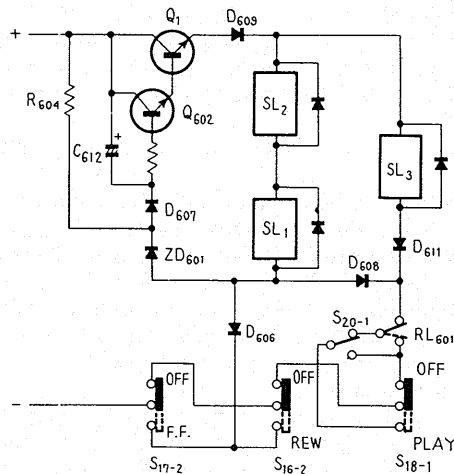

Fig. 5
• Control Circuit for Solenoid Supply Voltage (Fig. 5)
In Fig. 5, Q_1 , Q_{602} , and ZD_{601} form a voltage stabilization circuit supplying the retaining current for continuous operation of the brake solenoids (SL_1 , SL_2) and the pinch roller solenoid (SL_3).
When the F.F. or REW button (S_{17} or S_{16}) is pressed, the relay contacts (RL_{601}) adopt the positions indicated by the broken lines in Fig. 5, forming the closed loop: